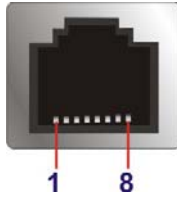

Figure 3-28: RJ-45 RS-422/485 Serial Port
- CN Pinouts:** See **Table 3-6** and **Figure 3-28**